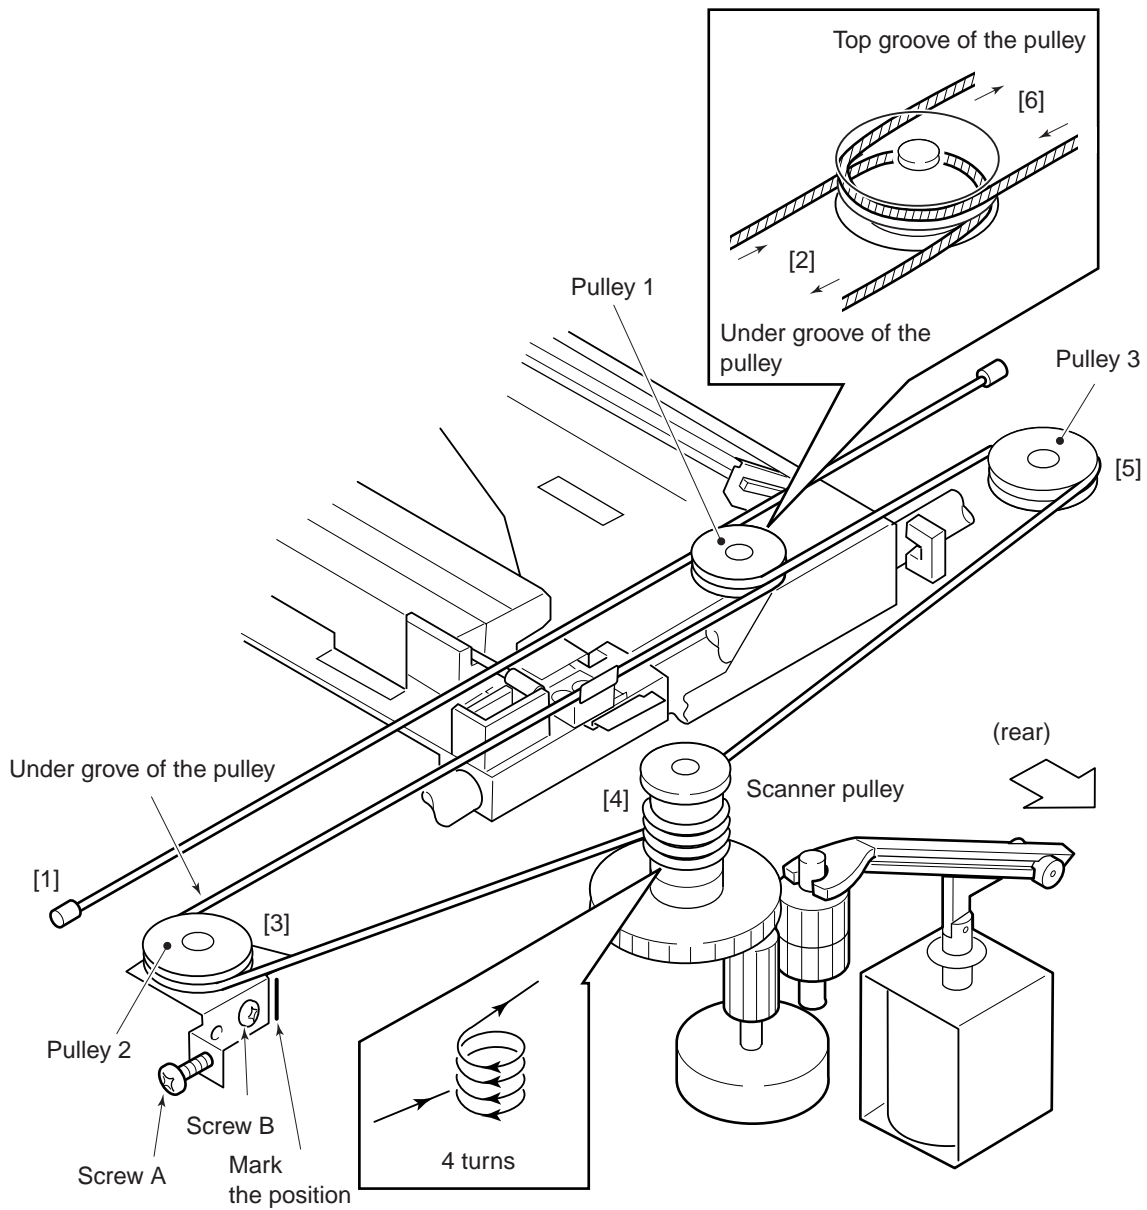

Figure 3-404 Scanner Drive Assembly
- 1) Route the scanner cable as shown in Figure 3-404.